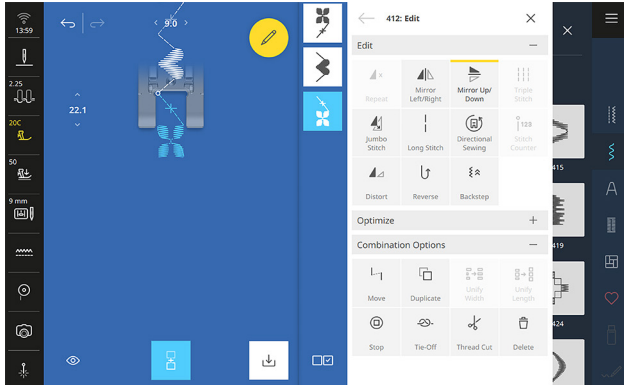

Fig. 20
5. With the last flower selected, tap Edit Menu » Edit Submenu » Mirror Up/Down (Fig. 20).